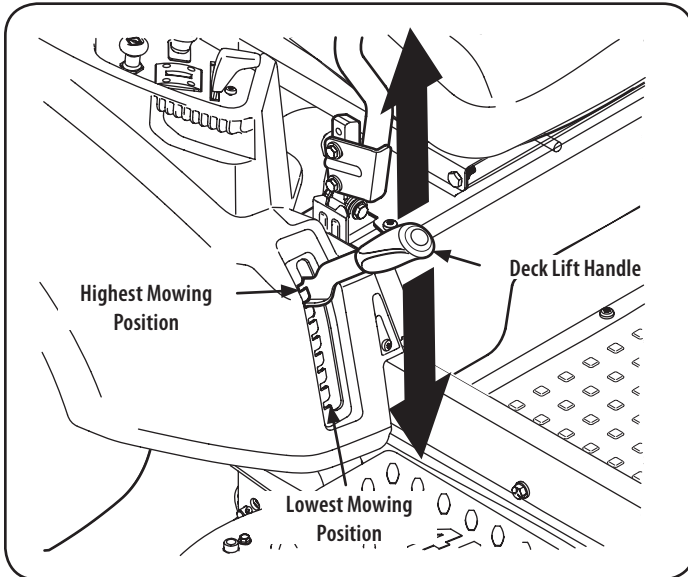

Figure 31
- Using the deck lift handle, raise the deck to the position that provides the most horizontal run of the belt between the deck idler pulleys and the PTO pulley on the bottom of the engine. See Figure 31.
- Lower the deck into the lowest position using the deck lift handle. See Figure 31.
1. Place the deck lift handle in the highest mowing position See Figure 31.